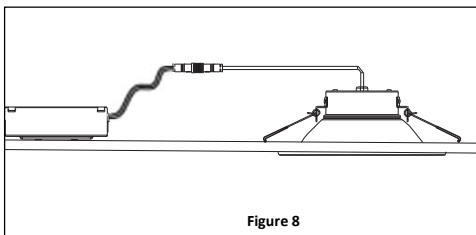

Figure 8
6. Let go of the clips and push the fixture up until it is flush with the ceiling. **See Figure 8.**